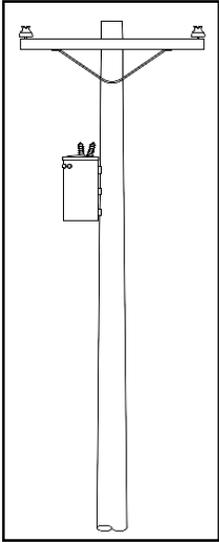

Figure 1: Overhead Transformer
- There is no transformer on the nearest pole (See Figure 1).